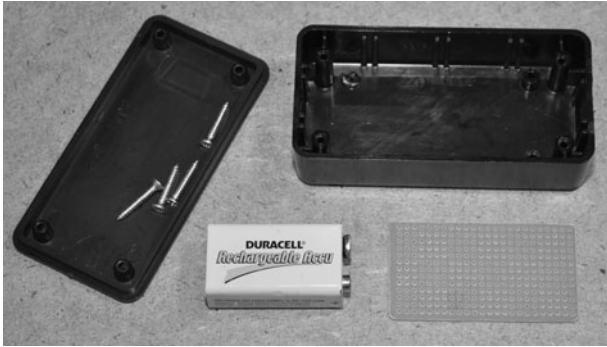

Figure 26-5 Adding the components into a small box.
Once you have verified the operation of the circuit using a camera, the parts can be soldered to a bit of perforated board or a PCB and mounted into some kind of project box (Figure 26-5). We decided to go with a 9-volt (V) battery as the power supply, so we used an LM78C05 regulator to step the voltage down to 5 V. The size of the battery will dictate the overall size of your project box, so start there.